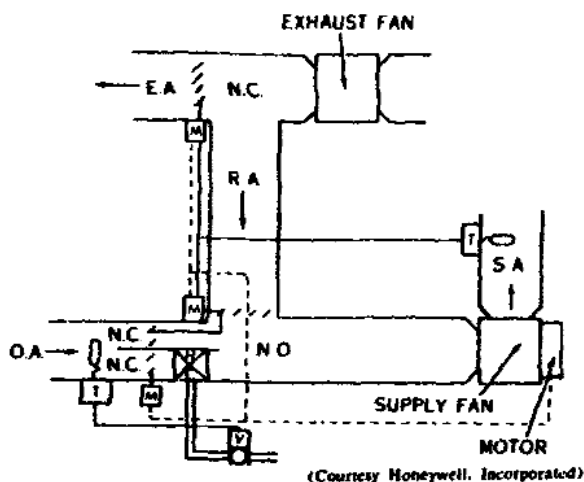

Figure 2. Preheat control with bypass and return air dampers.
6. *Thermostatically controlled face and bypass dampers.* The mixed air temperature remains relatively constant until the outside air temperature exceeds the desired mixed air temperature. The use of the face and bypass damper, illustrated in figure 2, makes it possible to control mixed air temperature without endangering the preheat coil. The damper is controlled by a temperature controller in the mixed air duct while the preheat coil is controlled by a valve which is modulated by a narrow range temperature controller in the outside air duct. The face and bypass damper will close and the return air opens when the supply fan is turned off.